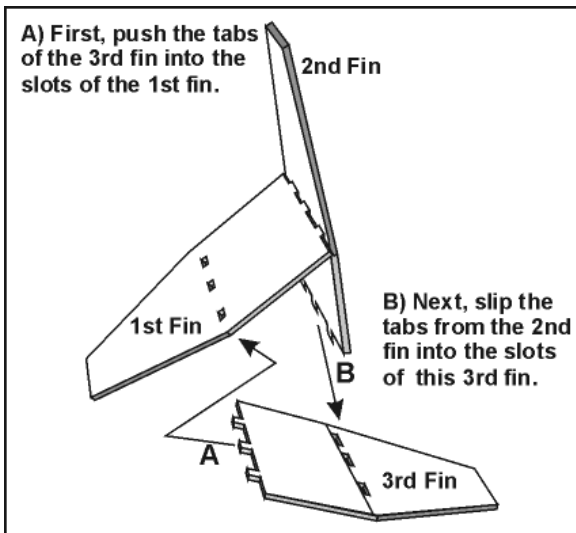

Figure 10
- 10. The third fin is rather tricky the first time, but real easy once you figure it out. **Figure 10** shows you how to connect this third fin to your Fin Unit.